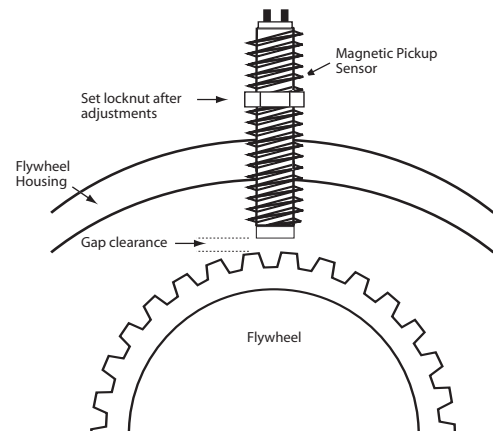

Fig. 1
Step 1 — Drill or tap a hole in the flywheel housing (IMPORTANT: Drilling too deep may damage ring gear teeth. Blow chips with air hose when drilling and tapping hole). Insert the Magnetic Pickup sensor into the hole. BE CAREFUL not to exceed the recommended gap between the sensor tip and the flywheel. It is suggested to tighten the sensor until it touches the flywheel, then back off the sensor a quarter or half turn (consult your magnetic pickup sensor’s documentation for appropriate gap space). Check gap clearance by rotating the gear completely around. After adjusting set lock nut (Fig. 1).